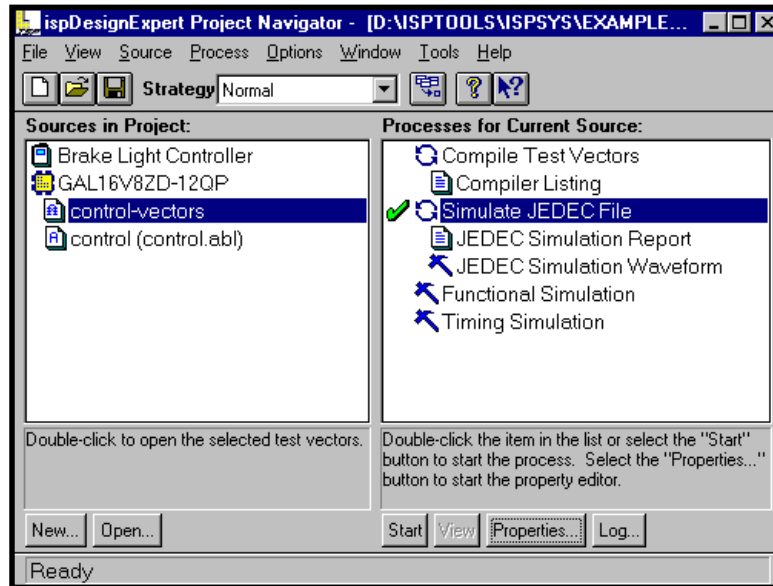

Figure 2-11. Run JEDEC Simulation
2. Double-click the Simulate JEDEC File process or click the **Start** button to run the process (Figure 2-11).